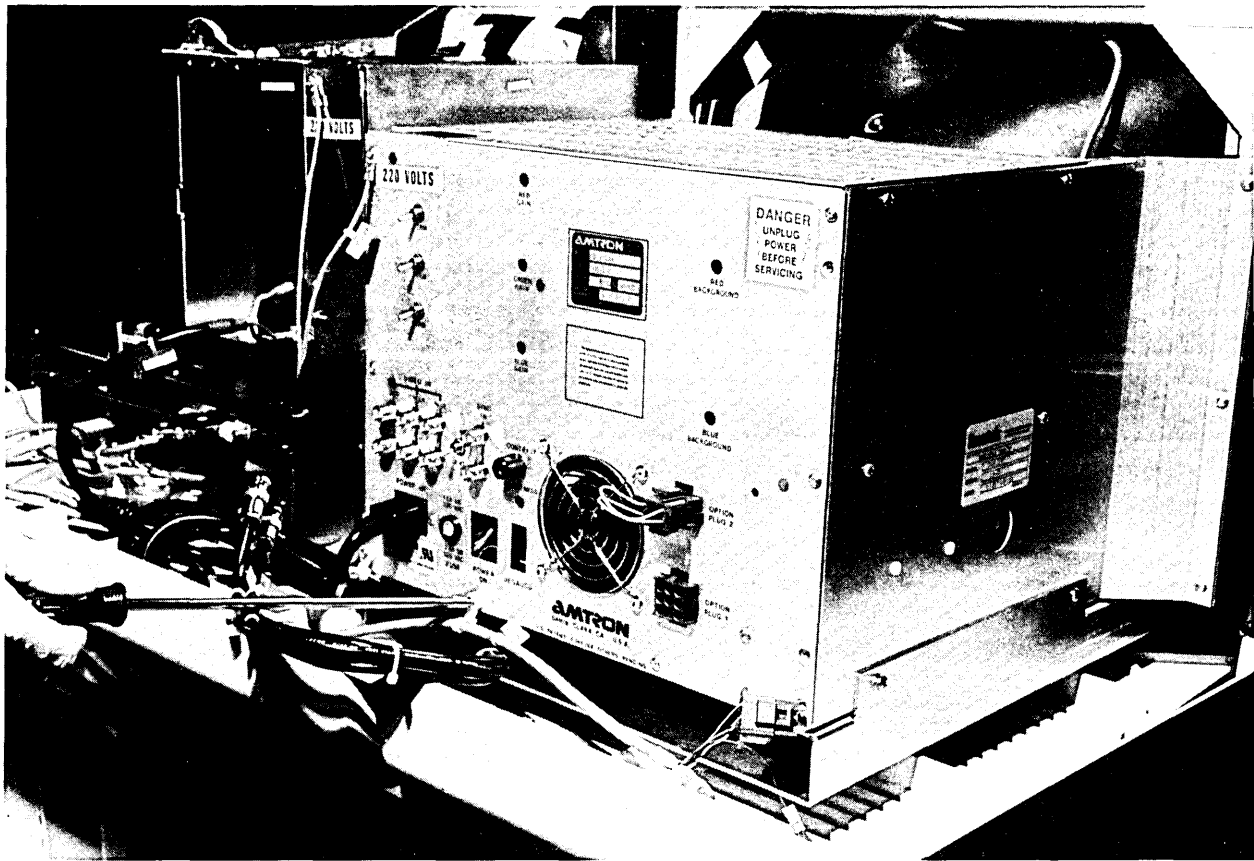

Figure 5-30. Removing Tie Anchors
3. See figure 5-30. Remove the cable tie anchors.
4. Replace the cable tie anchors. See again figure 5-30.